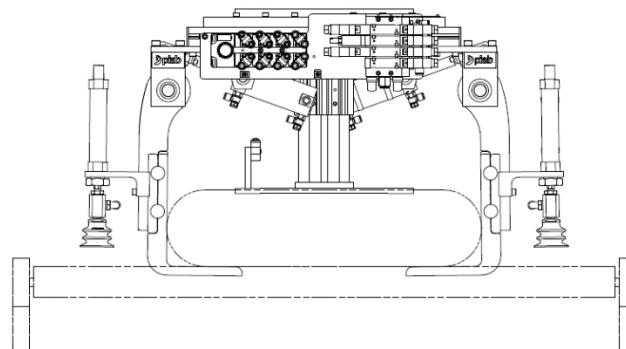

Figure 10 Bag gripper closed position.
- The fingers are closed to secure the bag, then the clamp cylinder is extended, see figure 10 below.